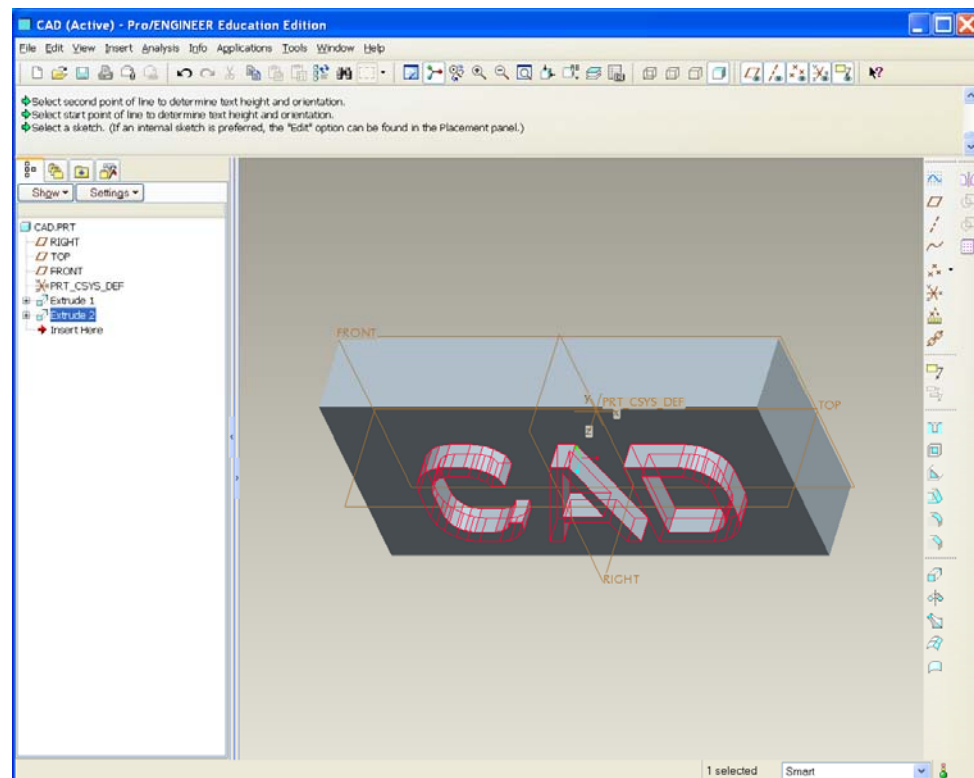

Figure 1.12 Part model
A. Produce the part model. The part consists of two features, together forming a block (4" x 8" x 1.5") with raised letters "CAD" as shown in Figure 1.12.
6. Create 2" x 6" x 0.5" letters "CAD" on top of the block as shown in Figure 1.12.
- View the created part (Figure 1.12). View → Orientation → Standard Orientation.